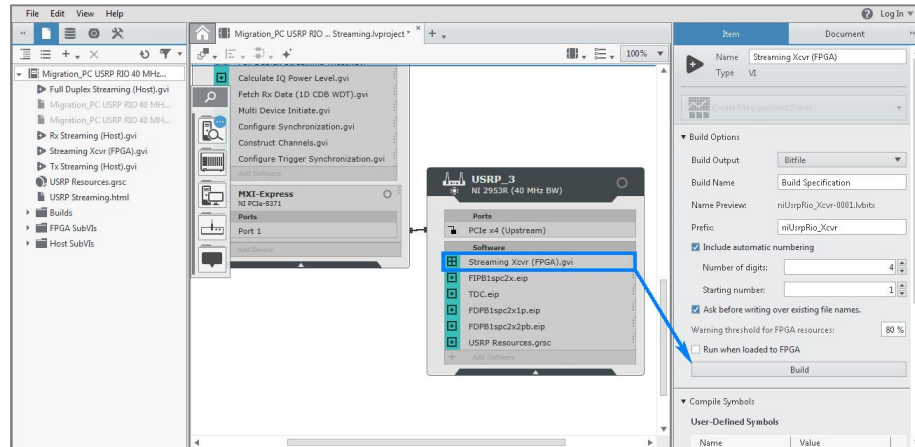

Figure 72: Compile FPGA VI by Clicking Build
- c. Click **Build** on the right-hand rail as shown in Figure 72.